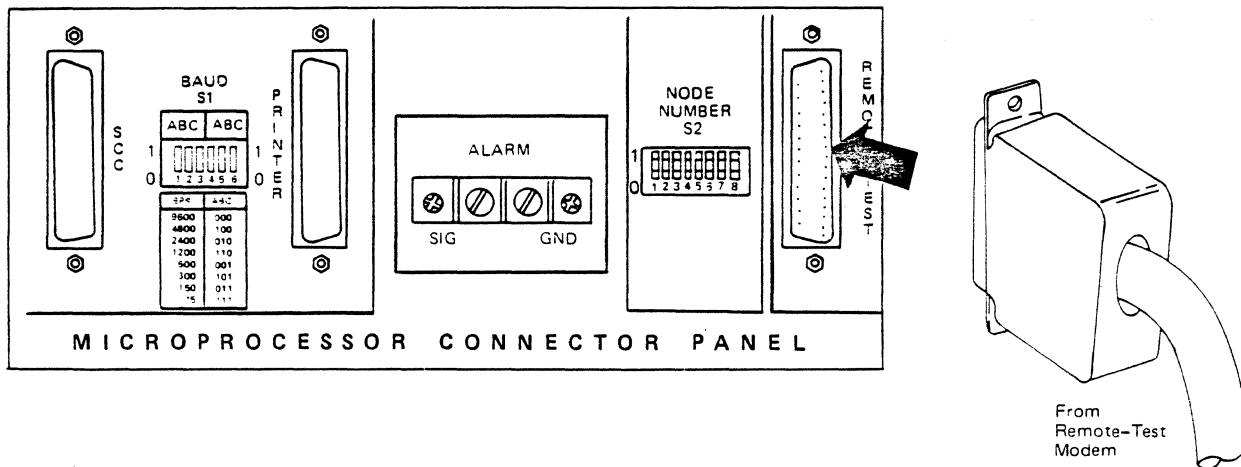

Figure 8-6. Remote-Test Modem DTE Cable Connection to Microprocessor Connector Panel
2. Connect the DCE end of the EIA connector cable to the Microprocessor Control Panel Remote-Test DTE port (Figure 8-6).